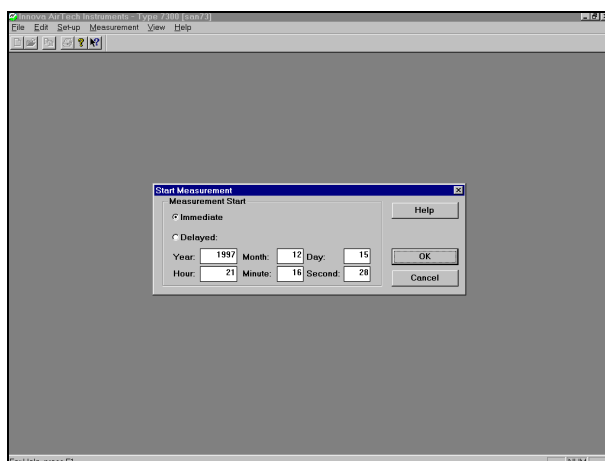

Fig 4.10 The Start Measurement dialogue
1. Pull down the **Measurement** menu and click on **Start**. The Start Measurement dialogue will be displayed, Fig. 4.10. You can start a measurement immediately, or at a given date and time.